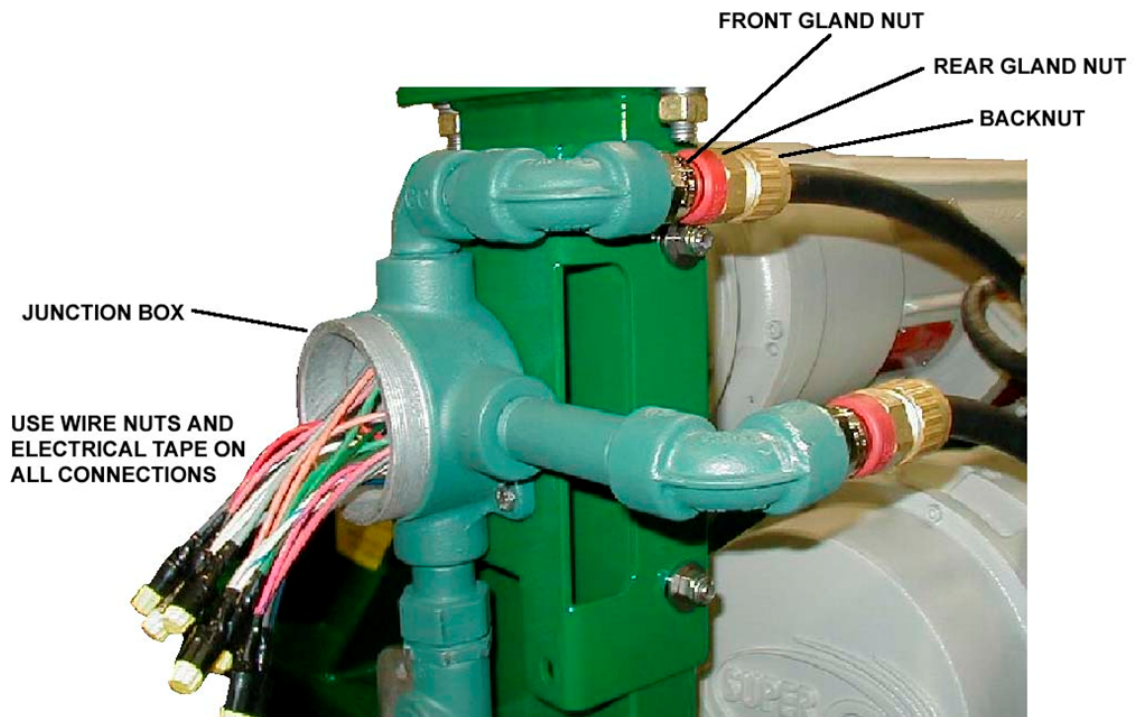
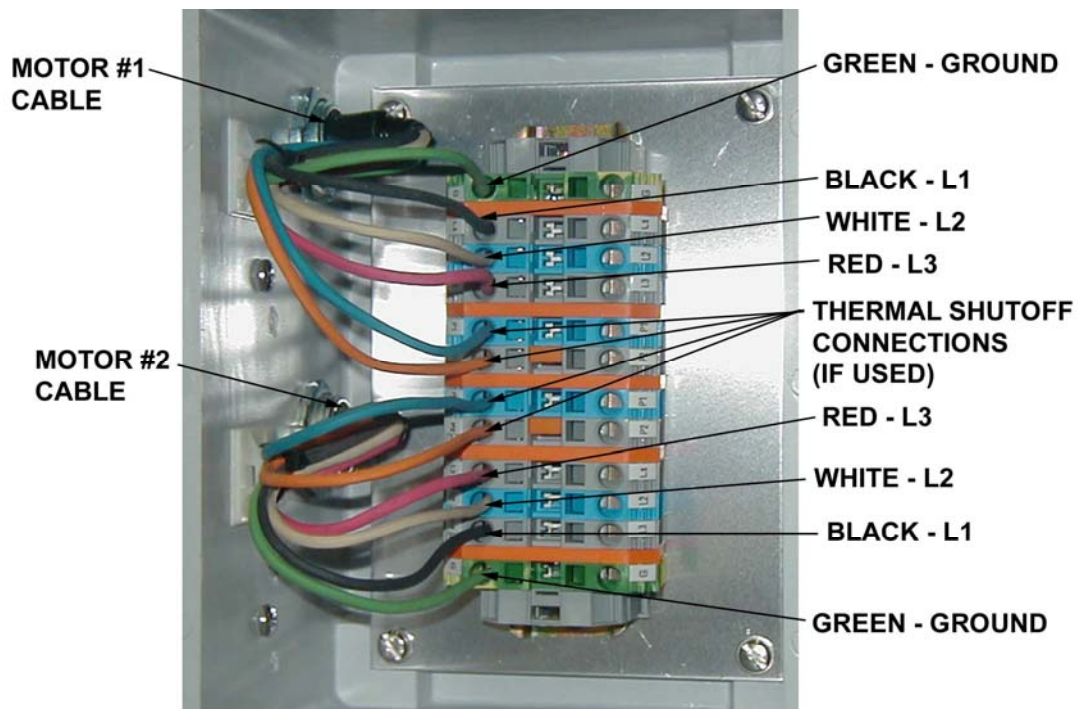
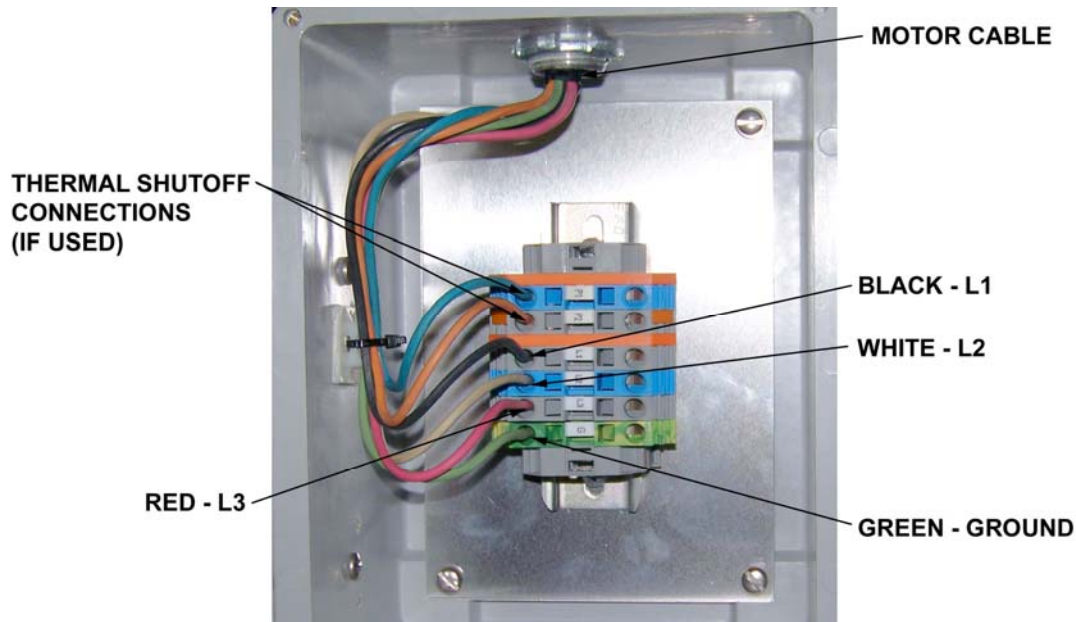

Figure 5 Dual Motor Connections - Round Junction Box
Figure 6 Junction Box Electrical Connections - Dual Motor
Figure 7 Junction Box Electrical Connections - Single Motor
Motor leads may be connected inside a round or rectangular junction box. If a round junction box is installed, the motor leads are connected to the machine leads with wire nuts and tape (Figure 5). If a rectangular junction box is present, the leads are connected to the terminal block shown in Figure 6 for dual motors or Figure 7 for a single motor. Refer to the schematic diagram in your equipment manual for additional assistance in connecting single or dual vibrator motor(s). The following procedures cover all types of installations. Select the procedure that applies to the electrical configuration of your machine.
2. Pass leads through junction box elbow and into junction box (Figure 5). Thread front gland nut into junction box elbow, and tighten securely. Thread rear gland nut onto front gland nut, and tighten securely. Thread and tighten backnut onto cable gland. Using wire nuts and electrical tape, connect leads to corresponding wire colors inside junction box as shown.
1. Pass leads into junction box (Figures 6 and 7), and thread front gland nut into junction box and tighten securely.